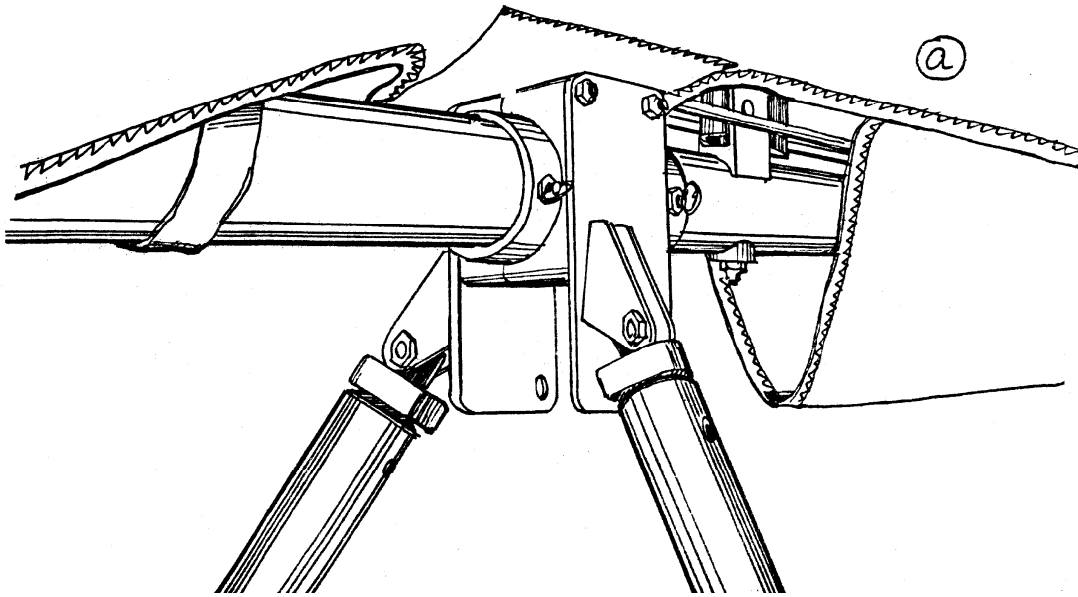

Fig.34
3.10. Check all bolts, nuts and the safety rings which secure the downtubes to the channel. Make sure that the channel to the keel and hang detail are secured (Fig.34, 35).